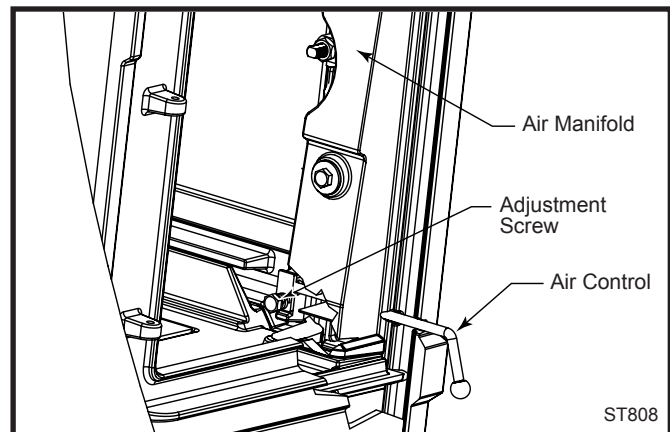

Fig. 33 Primary air control adjustment.
Over time, the air control may tighten or loosen. To adjust the tension on the control, let the stove cool to room temperature. Open the side-loading door and look in toward the inner side of the front panel of the stove. (Fig. 33) Locate the lower hex head bolts (A) on the primary air manifold rods on either side of the door. Adjust with a 7/16" wrench.